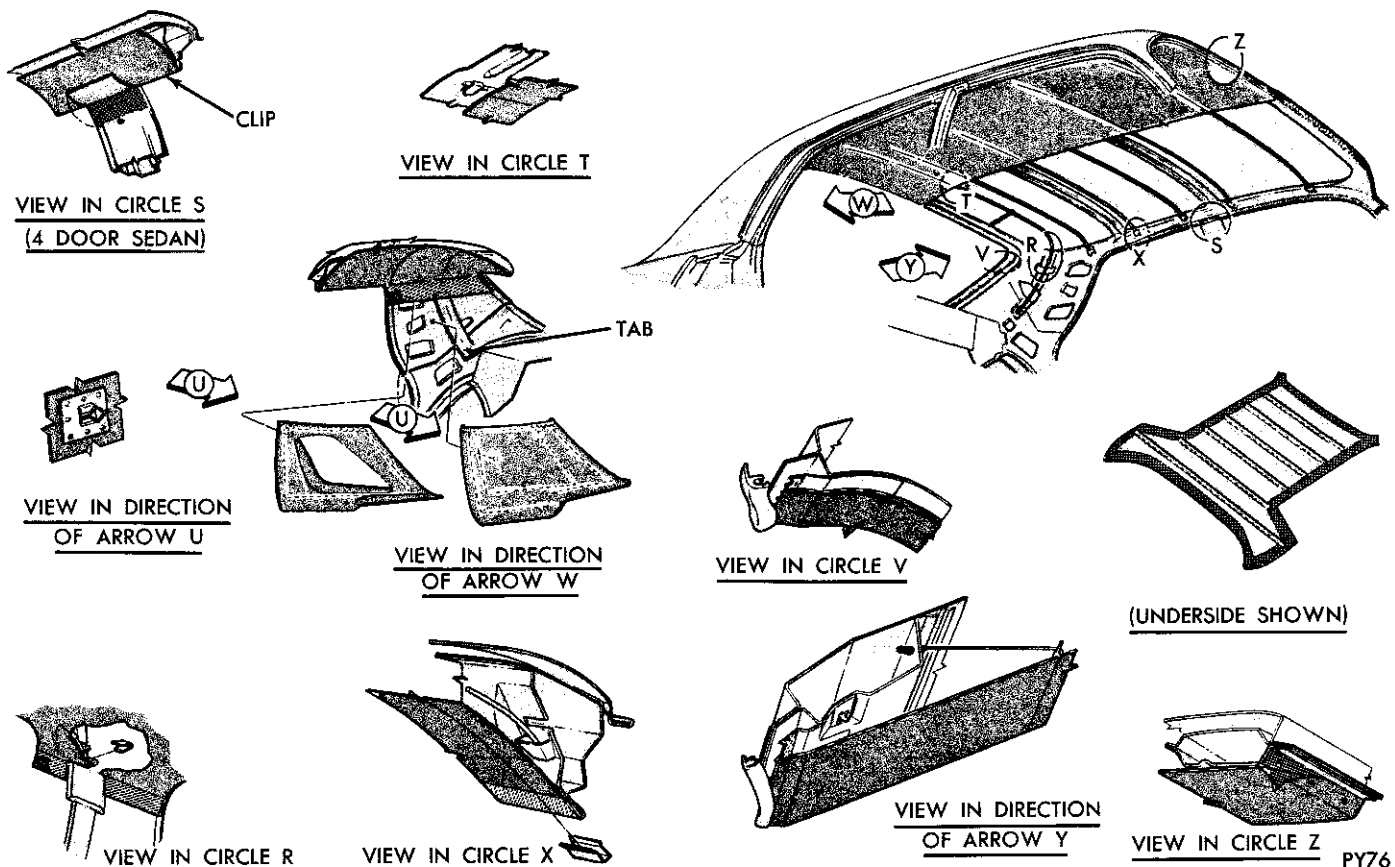

Fig. 4—Soft Headlining (Sedan)
(4) Center headlining at rear window. Insert rear listing wire to retainer clips on roof rail extensions and hook to wire supports (Figs. 4 and 5).
(5) While maintaining front to rear alignment, stretch material to remove all wrinkles. Equal amounts of material should hang down at both sides.
(6) Install remaining listing wires, following same cautions as in step 5.
(7) When cement at windshield header area becomes tacky, start at centerline area of windshield and position headlining to cemented area.
(8) Using a dull putty knife, secure liner on barbs at header area, **do not install material at top of windshield posts**, making sure there are no wrinkles and fabric seam is straight.
(9) Locate sun visor mounting bracket screw holes in header and cut holes in headlining slightly larger than attaching screws.
(10) Install sun visors and tuck in corners of headlining at top of windshield posts.
(11) Locate rear view mirror bracket screw holes, cut holes in fabric slightly larger than screws and install mirror.
(12) When installing headlining at side rail retainers, work only a small section at one time to make certain seams are straight and material is free of
- (1) Remove mouldings (Fig. 4) at edges of section being removed.
- (2) Using a fibre tool force liner section off of roof bow and out of side retainers.
- (3) Inspect liner section for damaged edges.